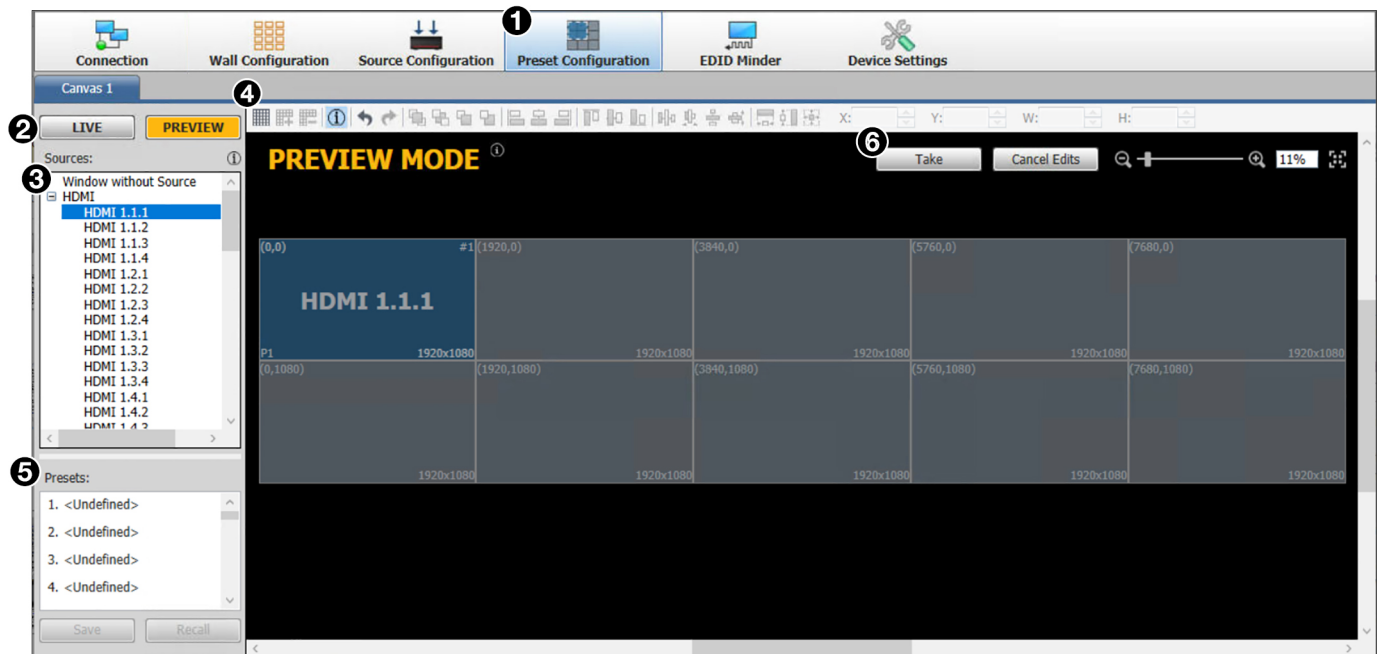

Figure 6. Preset Configuration Window
1. On the taskbar, click the **Preset Configuration** task button to display the preset configuration workspace (see figure 6, ①). The Canvas in this workspace is a virtual representation of the videowall you set up on the Wall Configuration screen (see Configuring the Videowall Using VCS on page 4).
2. Click the **Live** or **Preview** button (②) to select the mode in which you want to configure the preset (see the *VCS Help File* for more information on configuration modes).
- a. Click on a source name (**HDMI**, **IP**, **Picture**, **Clock**, **VNC**, **Text**, or **RSS**) in the Sources (left) panel (③), and drag it to the desired location on the Canvas. A window containing the source name appears on the Canvas (see the example at right). You can also drag in a **Window without Source**, for which no input signal is displayed in the window on the Canvas.
4. If a window completely or partially covers another window, set the priority for each window by selecting the window, then clicking a priority icon on the toolbar above the Canvas (④). The priority number of the window (P1, P2, and so on) is displayed in the lower-left corner of the window on the Canvas (see the image in step 3a, above). You can also use this toolbar to align multiple windows with each other and to set the size of multiple windows on the Canvas.
- In the Presets list in the lower-left corner of the screen (see figure 6, 5 on the previous page), select a slot for the preset to be saved.